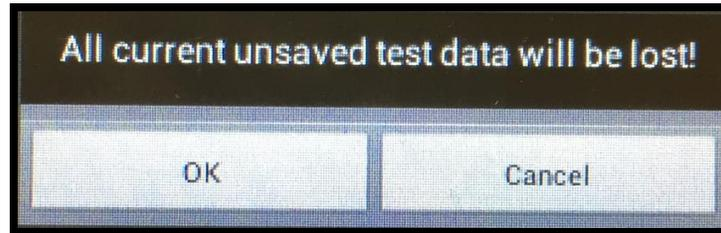

Figure 41
- 1. In the event the **Clear Data** button is pressed a sub window will appear stating “All current unsaved test data will be lost!” (See Figure 41)